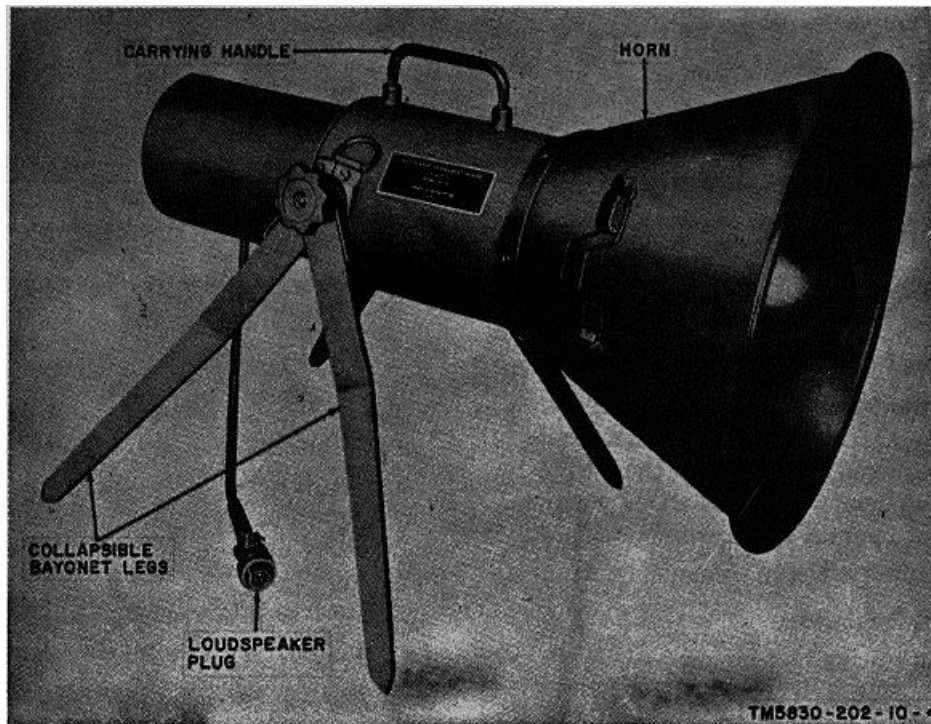

Figure 4. Permanent Magnet Loudspeaker LS-457/U.
- (2) A blower motor port on the upper cover and an air intake port on the lower cover permit air intake and exhaust for cooling the internal parts.
- (3) A circuit breaker is mounted on the side of the audio amplifier case and protects the audio amplifier against power overloads.
- (4) The loudspeaker output jack, bridging output jack, power input plug, and INPUT RECEPTACLE are used for interconnecting the equipment.
*b. Loudspeaker* (fig. 4). The loudspeaker is mounted on two sets of collapsible bayonet legs. Each set of legs is pivoted on opposite sides of the horn. The legs may be folded together and secured to the sides of the horn. The loudspeaker is fitted with an attached cable and plug for connection to the audio amplifier, either directly or through extension cables.